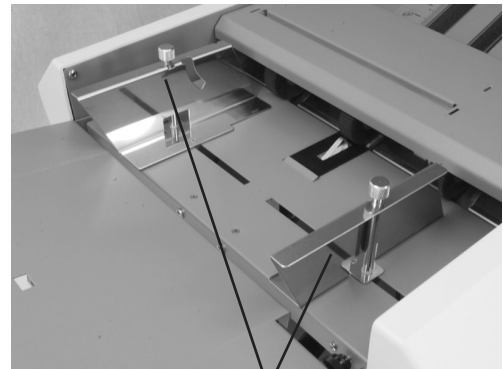

Fig.7a
4. Set the self-centring paper side guides for the width of the paper and lock in position using thumbscrews (Fig. 7a)